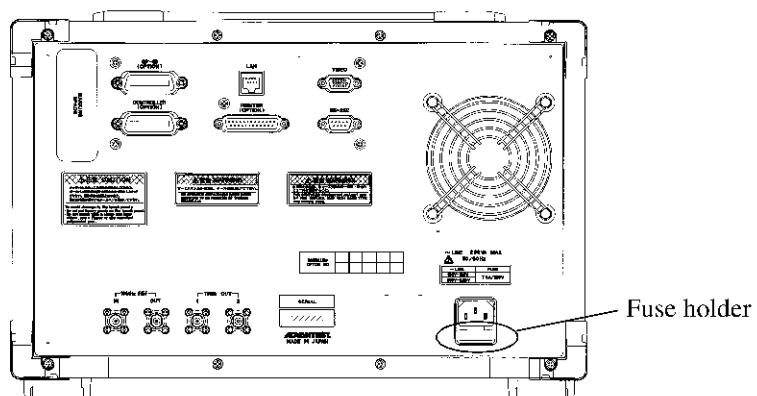

Figure 1-2 Fuse Holder Location
3. Remove the fuse holder located on the rear panel using a screwdriver (Refer to Figure 1-2, 1-3, and 1-4).